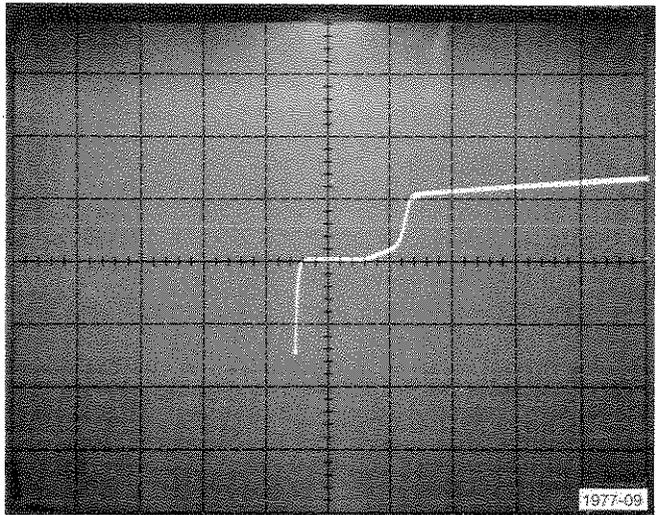

Fig. A-9. Display of maximum supply current.
- Check that the supply current is ≤ 4 vertical divisions for a horizontal sweep of 5 volts (see Fig. A-9).